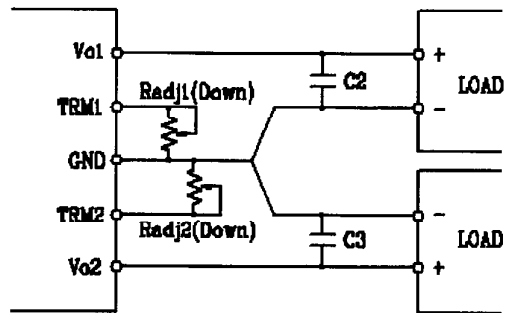

Fig.3-3 : Connection for output voltage trim down
- b) GND terminal : to adjust to lower output voltage; Fig.3-3.